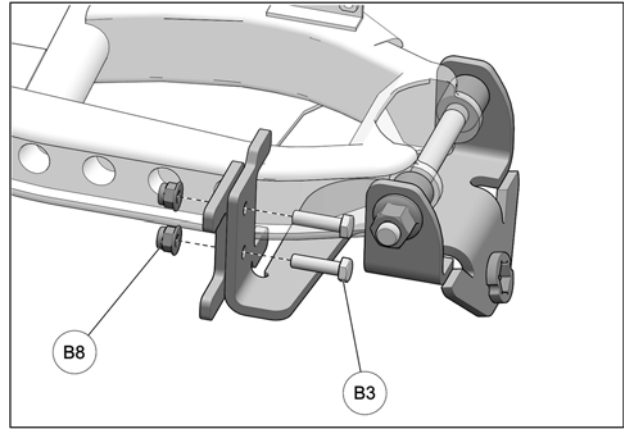

Fig. 13
14. Secure spacer plate to bracket using M8 bolts (B3) and nuts (B8). Hand-tighten nuts. See Fig. 13